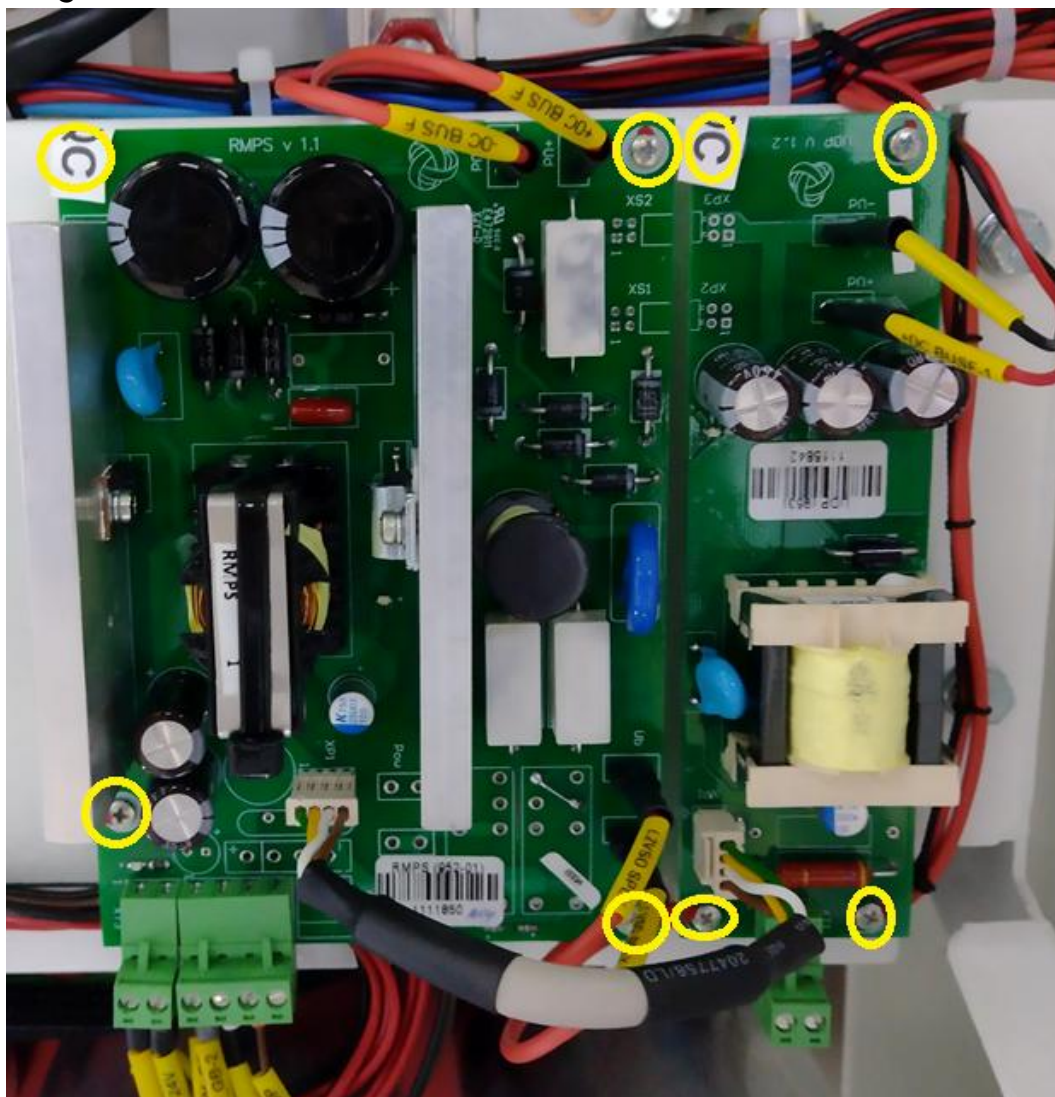

Figure 2 – RMPS + UDP unit final dismantle step
3. Unscrew the screws which fixing RMPS + UDP units as shown at the figure 2 using crosshead screwdriver.